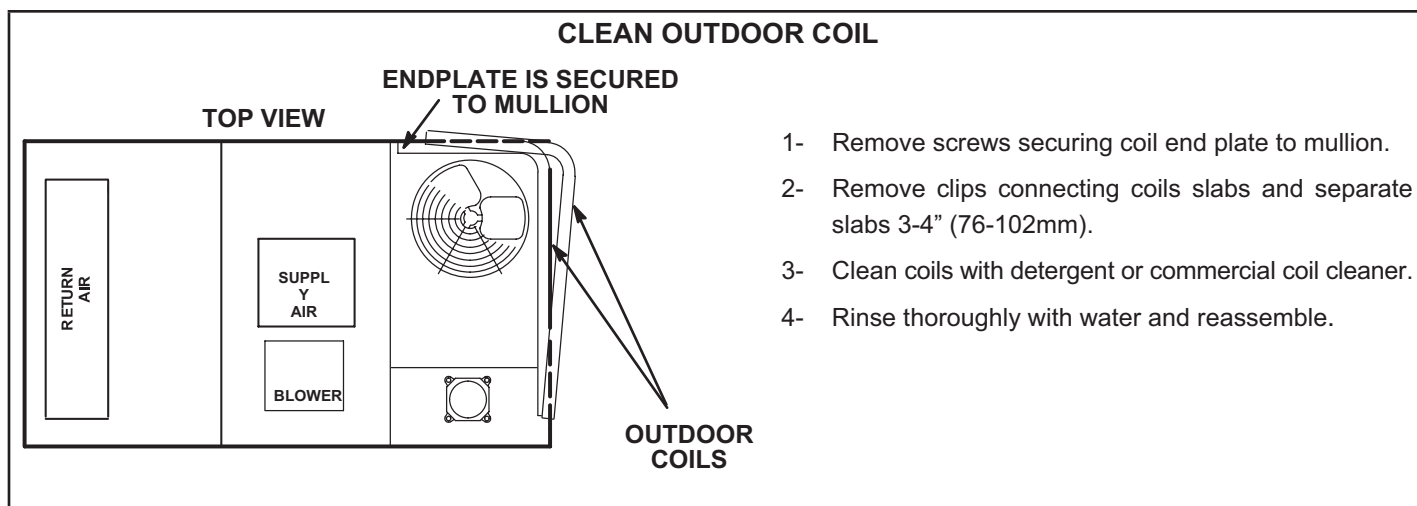

FIGURE 20
Clean outdoor coil annually with detergent or commercial coil cleaner and inspect monthly during the cooling season. Outdoor coils are made of single and two formed slabs. On units with two slabs, dirt and debris may become trapped between the slabs. To clean between slabs, carefully separate coil slabs and wash them thoroughly. See FIGURE 20. Flush coils with water following cleaning.
See Optional Accessories at the front of this manual (Table of Contents) for sizes per LHX units. Outdoor air dampers may be manually or motor (M) operated to allow up to 25 percent outside air into the system at all times. See FIGURE 20. The washable filters supplied with the outdoor air dampers can be cleaned with water and a mild detergent. It should be sprayed with Filter Handicoater when dry prior to reinstallation. Filter Handicoater is R.P. Products coating no. 418 and is available as Part No. P-8-5069.